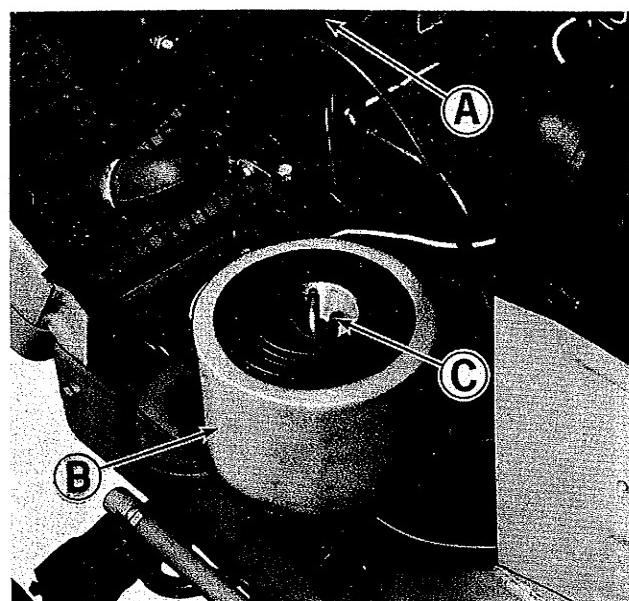

Figure 20. Air cleaner with cover removed on left side of engine.
See figure 20. All grass and chaff should be removed from the engine fins (A); **CAUTION: THE ENGINE FINS ARE VERY HOT AFTER THE ENGINE HAS BEEN OPERATED. DO NOT TOUCH THEM UNTIL THE ENGINE HAS BEEN ALLOWED TO COOL. NEVER SPRAY WATER ON A HOT ENGINE.**
2. See figure 20. Remove the foam precleaner (B) and wash it in liquid detergent and water and squeeze dry.
4. Install the foam precleaner as shown in figure 20.
The engine air cleaner is made up of two types of filters. The foam filter (Figure 20, Item B) and a dry filtering element. The foam element should be cleaned and oiled every 25 hours as explained under the Every 25 Hour Maintenance Services. Once a year or every 100 hours, which ever occurs first, the paper element should be removed and cleaned or replaced. Proceed as follows:
2. See figure 20. Remove the foam element (B) and clean and oil it as described in the Every 25 Hour Maintenance Service.
3. Remove wing nut (C) and remove the paper element from the air cleaner.
5. See figure 20. Replace the paper element and wing nut (C) and tighten it securely.
6. Install the foam element (B) over the paper element as shown in figure 20.